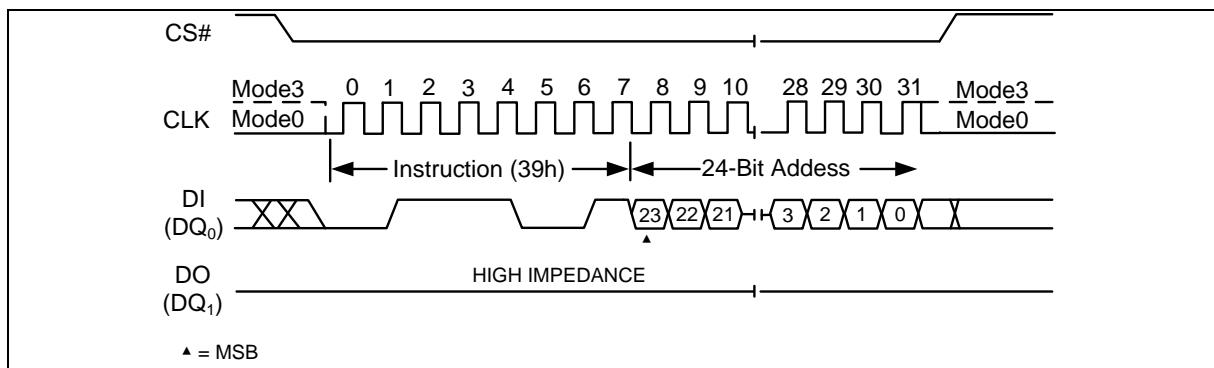

Figure 109 Individual Block/Sector Lock Instruction (SPI Mode)
To unlock a specific block or sector as illustrated in Figure 109, an Individual Block/Sector Lock command must be issued by driving CS# low, shifting the instruction code "39h" into the Data Input (DI) pin on the rising edge of CLK, followed by a 32/24-bit address and then driving CS# high.